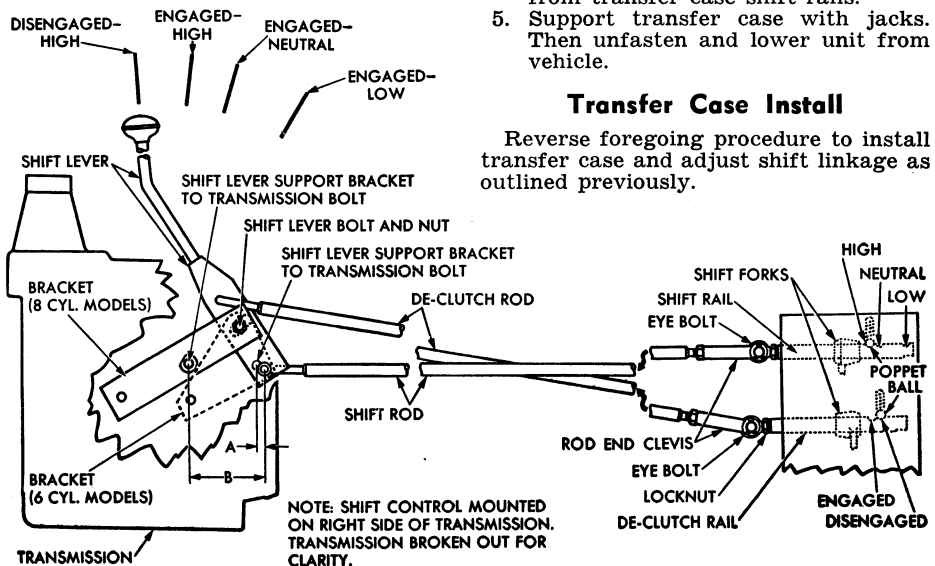

Fig. 3 Shift lever adjustments. Transfer case T-223
Shift Lever Adjustment, Fig. 3
6. In this position the distance (center-to-center) between shift rod end hole (lower hole in shift lever) and lever mounting bracket bolt hole should be 3/8" for 6-cylinder models ("A", Fig. 3) and 4" for V8 engines ("B", Fig. 3).